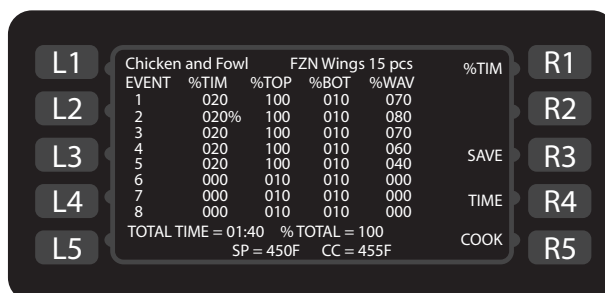

Figure 30: Recipe Edit Screen
5. From the “Recipe Edit” screen (Figure 30), edit the food group name:
1. From the Recipe Edit screen (Figure 30), press the Down key to move the cursor to the desired “Event Setting” field.
NOTE: To help make navigation easier, the currently-selected field will be displayed in the top-right corner of the display. In Figure 30, the cursor is in the “% Time” column.